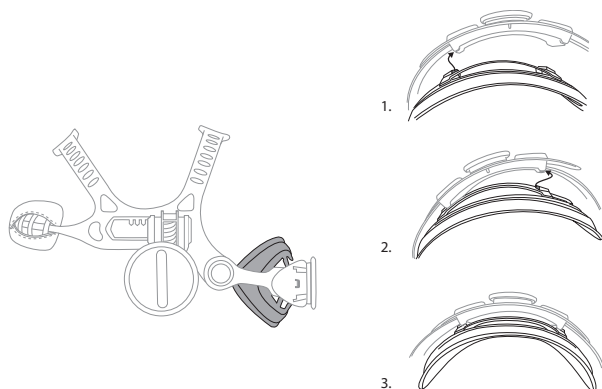
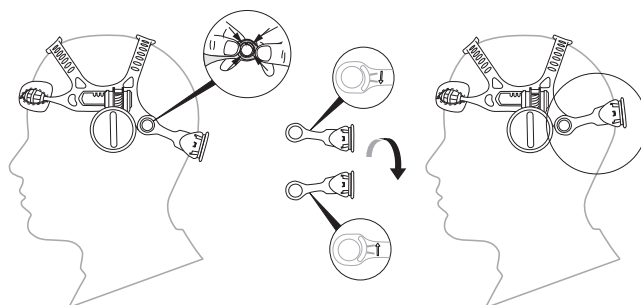

Fig. 4a
Fig. 4b
4. An optional size large comfort head rest (46-0400-55) that will fit to the ratchet is available. This large comfort head rest can also be used to improve fit and stability for smaller head sizes (Fig. 4a). In order to achieve a comfortable and secure fit, the ratchet may also be removed, rotated 180 degrees and replaced to slightly change the location of where the ratchet meets the back of the head (Fig. 4b).